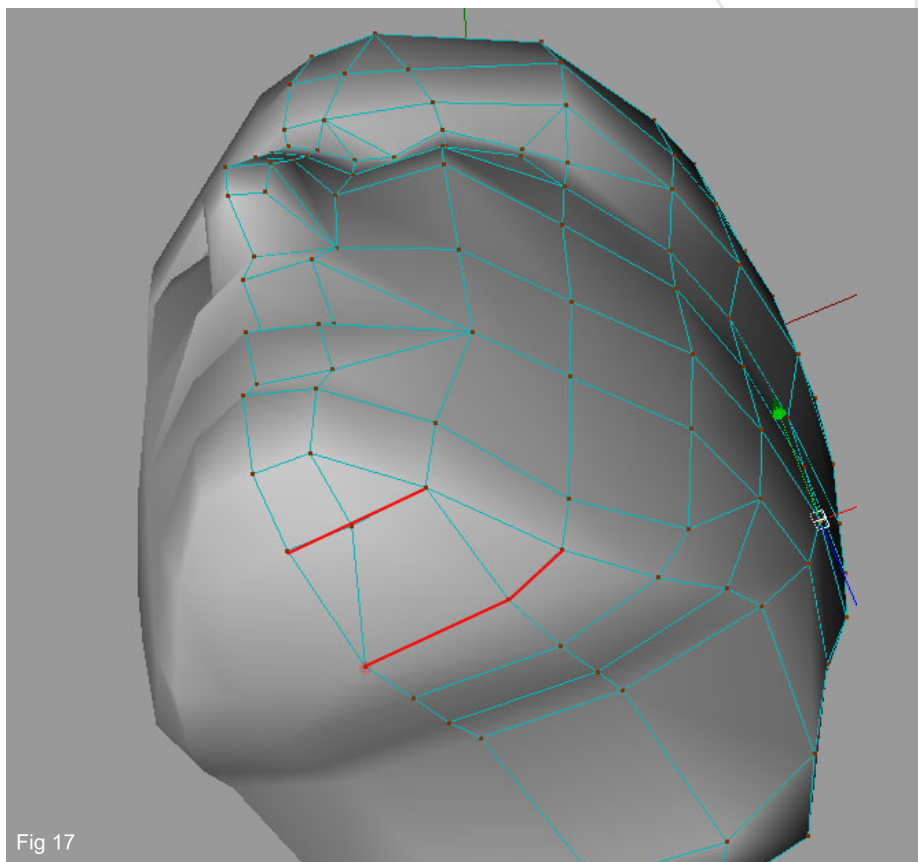

Fig 17
17. To remedy the very flat underside of the chin we shall now make a further cut as seen in Fig 17. The extra verts can now be pulled downward to form a more rounded profile and the points on the right can be welded to the central points to reduce the poly count.